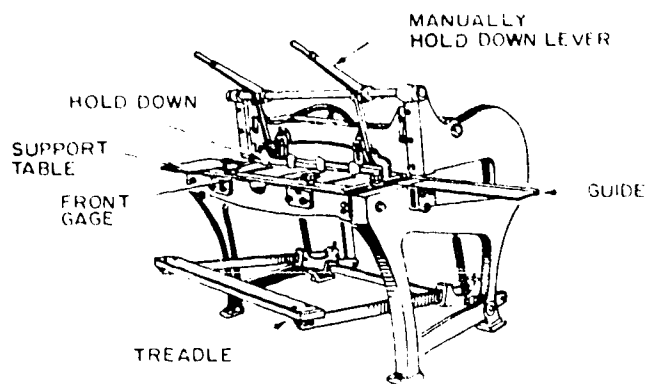

Figure 1-5. Gap squaring shear.
**Gap Squaring Shears.** The gap squaring shears, illustrated in figure 1-5, resemble manual squaring shears except that the frame is built to accommodate any width or length of sheet metal for slitting. The front opening or gap is usually about 18 inches deep for shears with a capacity of 16-gage mild steel. Due to its construction, the gap squaring shear is considerably larger than a squaring shear of the same capacity. Constructed as they are, these shears can be used to cut one piece or several pieces from a sheet of metal longer than the machine itself. You do this by first adjusting the front gage to the desired width, making sure that the gap is deep enough to allow easy passage of the metal. Then move the metal between the cutting blades from left to right and make a cut about three-quarters the